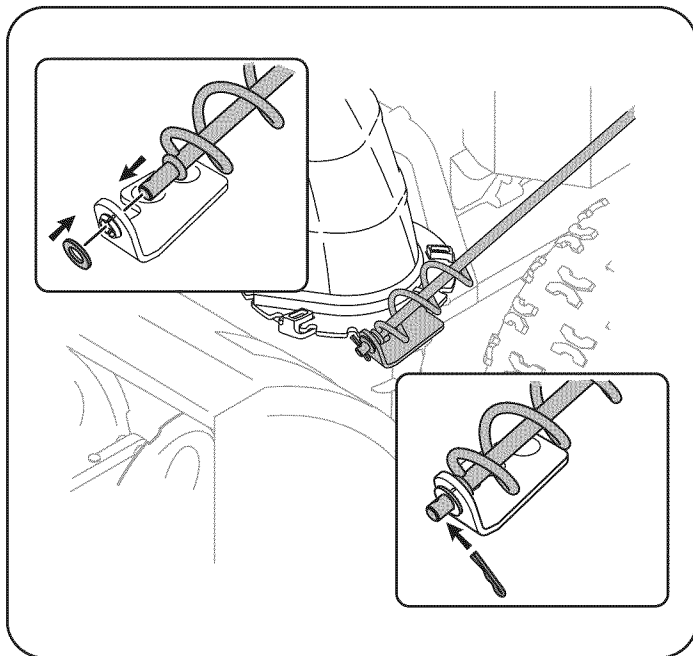

Figure 5
7. Insert the end of the chute directional control into the lower bracket and secure with the flat washer and hairpin clip just removed. See Figure 5. If necessary, the lower bracket can be adjusted. Refer to Chute Bracket Adjustment in the Service & Maintenance section.